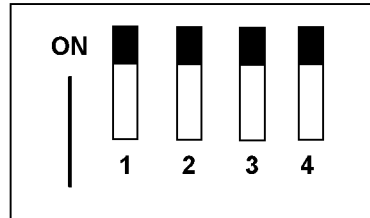

Figure 3. VLT 6000 Terminator Switch Factory Setting
switch positions shown in Figure 3 demonstrate the factory setting.
5. Ensure that the switch positions in Figure 3 are set correctly.